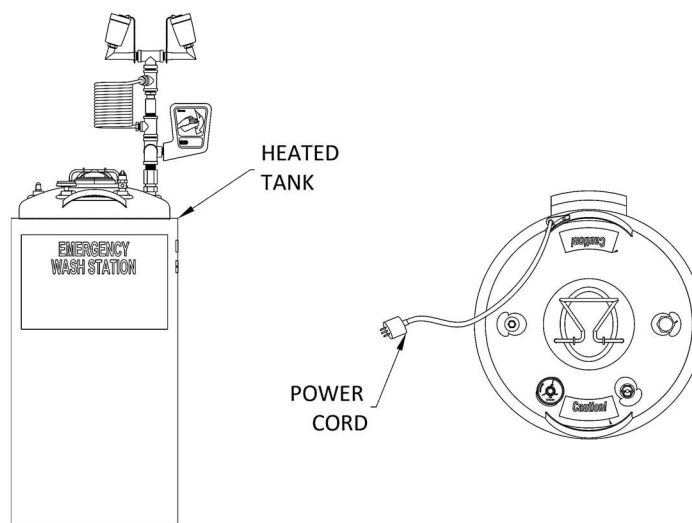

FIGURE 8
- B. Connect power to the unit using the power cord (included). Insert the 3-prong male plug into a suitable functional 120-volt electrical outlet or connect the power cord to a 12 VDC battery, whichever is applicable (Figure 8).